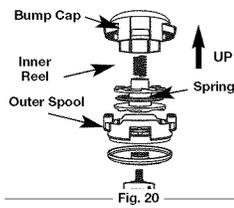

Fig. 20
2. Remove the cap either by letting it pop off or a slight wiggle of the cap may be required and pull it off the outer spool (Fig. 20)
4. Place the inner reel back into the outer spool (Fig. 20).